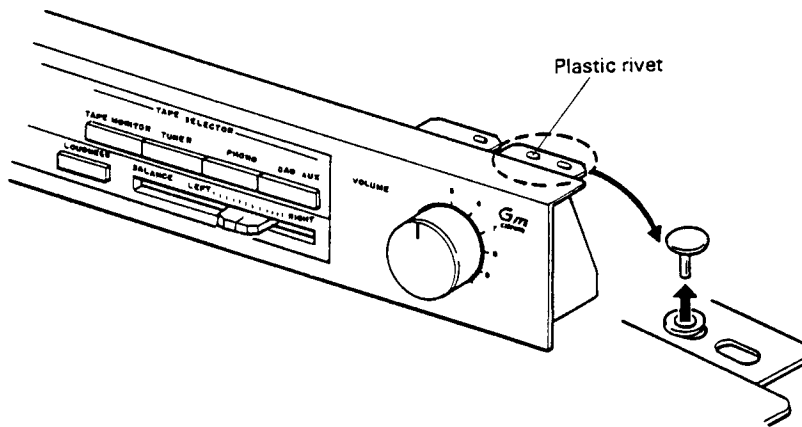

Fig. 2
1. Pull out the plastic rivet bushes by pressing it from the inside (Fig. 2).